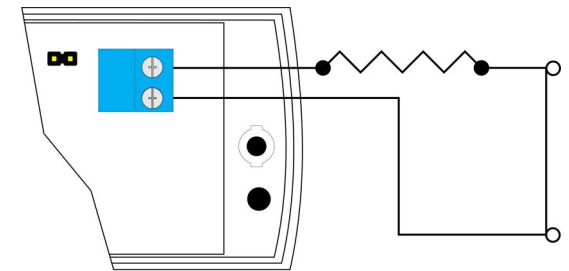

Figure 3 Wired for N/C operation
2. Use 22 AWG wire to wire the 2.2K ohm resistor in series with the N/C contact per Figure 3. The distance from the external contact to the EN1215EOL must not exceed 10 feet (3 meters).